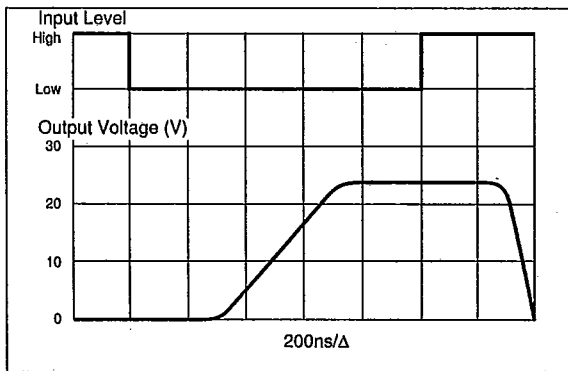

Figure 8. Timing diagram, typical timing input vs. output. $V_{cc} = 24V$.
- Figure 8 shows the timing diagram for input-output delays with a resistive load.